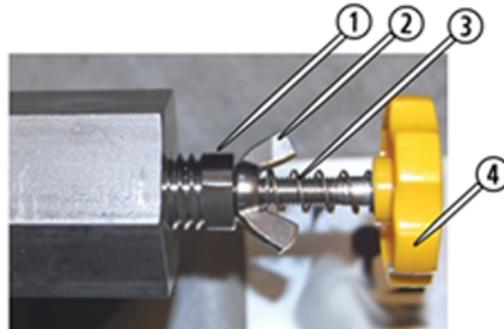

Figure 11
5. Screw the **pressure adjustment knob** into the **ADO body** until the **wing nut** makes initial contact with the **stem adjuster** [1] (Figure 11).